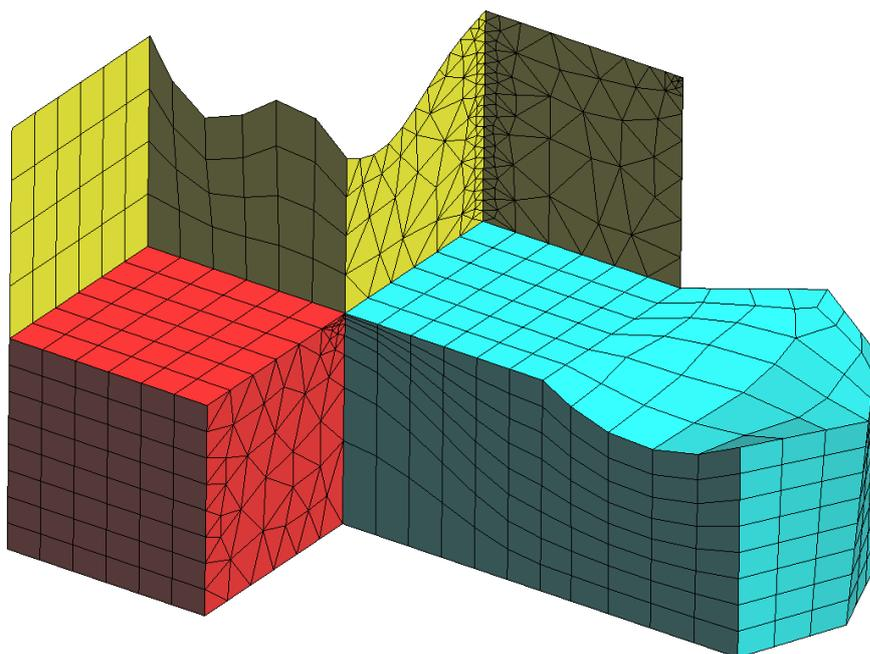

Figure 15. Unstructured size assigned in a point and a line.
- 24 Another window appears in which the maximum element size should be entered. Leave the default value unaltered. The result is the mesh shown in Figure 15.